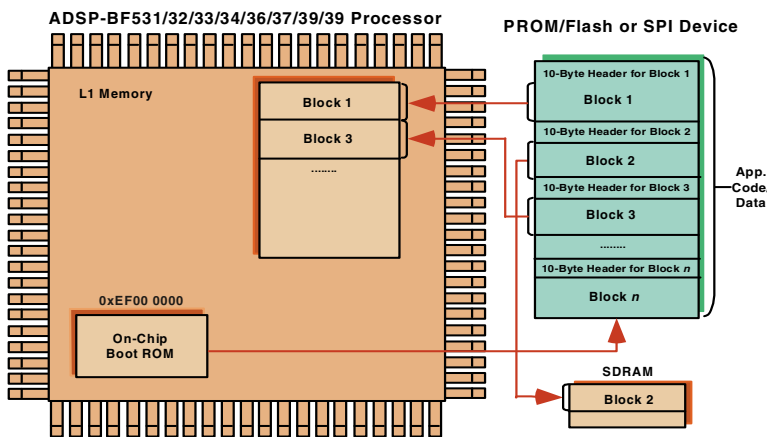

Figure 3-1. ADSP-BF531/BF532/BF533/BF534/BF536/BF537/BF538/BF539 Processors: Booting Sequence
3. The NOBOOT bit, if bit 4 of the SYSCR register is not set, performs the full boot sequence (Figure 3-1).
The loader utility converts the application code (.dxe) into the loadable file by parsing the code and creating a file that consists of different blocks. Each block is encapsulated within a 10-byte header, which is illustrated in Figure 3-1 and detailed in the following section. The headers, in turn, are read and parsed by the on-chip boot ROM during booting.